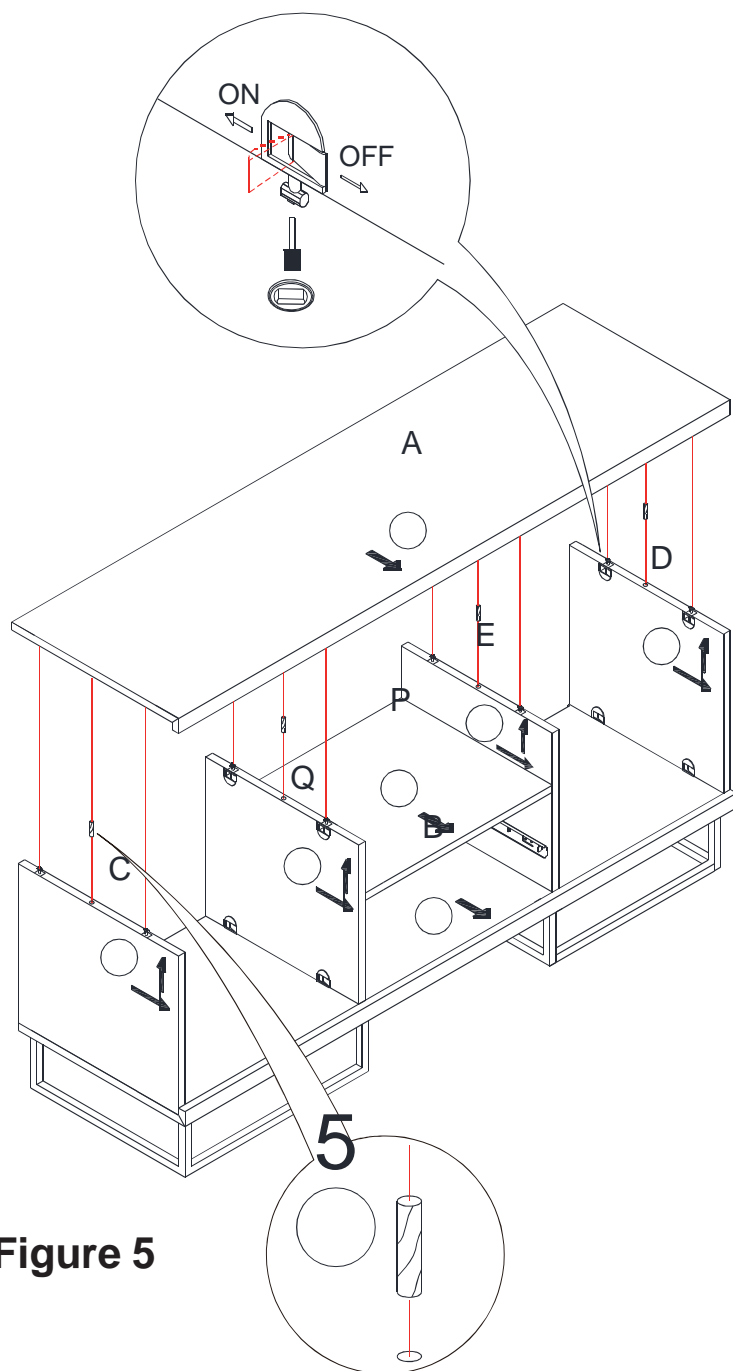

Figure 5
Assemble the top panel (A) to the assembled unit using wood dowels (5) as shown in figure 5.
Switch the lock as shown in figure 5.